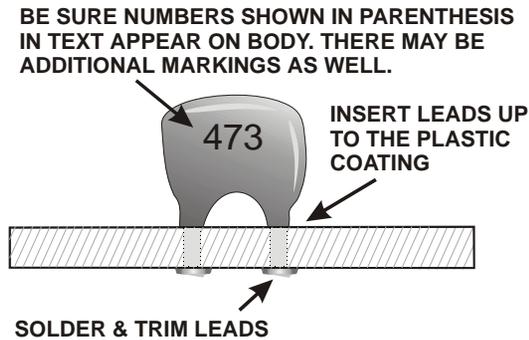

Figure 9. Installing Capacitors.
- Install capacitor C1, .047 μ F (473) on the *back* side of the PCB (the side that is *not* silk-screened). Position the capacitor as shown in Figure 9.